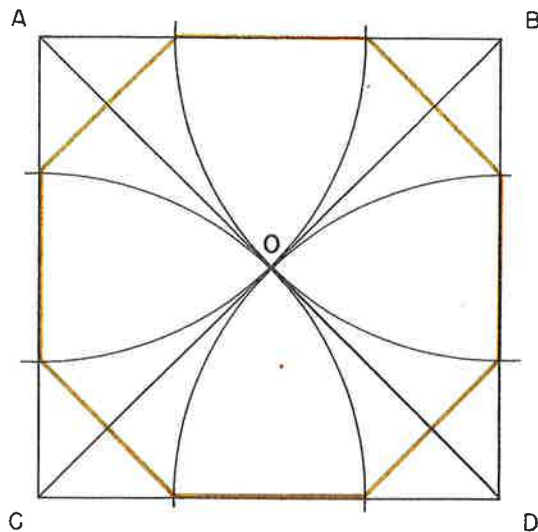

Fig. 13-7. Octagon.
3. Set the dividers or compass for a distance equal to one-half the length of a diagonal of the square. The diagonal is a line extending from opposite corners. In Fig. 13-7, the diagonals are lines AD and BC .
4. Set the points of the dividers on points A and O (Fig. 13-7). Use point A as the center.
7. Draw straight lines joining the intersecting points on the sides of the square (Fig. 13-7). This makes the octagon.